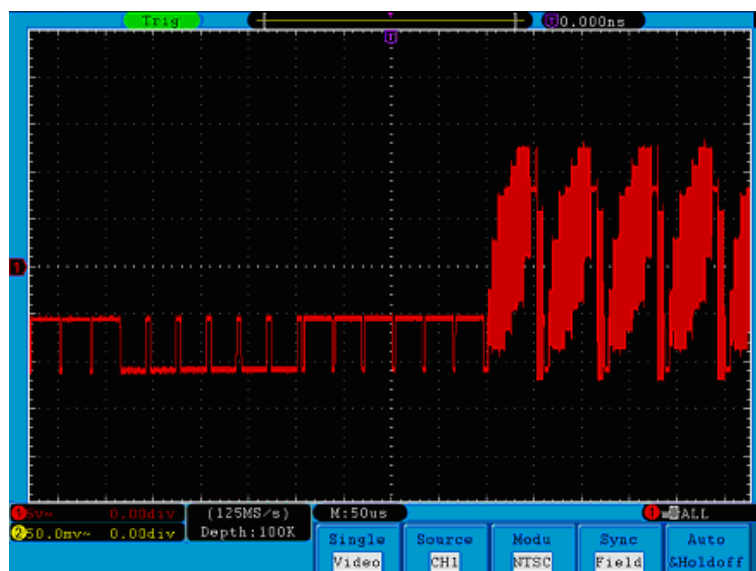

Figure 88. Waveform Captured from Video Field Trigger.
- 11 Turn the **VOLTS/DIV**, **VERTICAL POSITION** and **SEC/DIV** knobs to obtain a proper waveform display (see Figure 88).